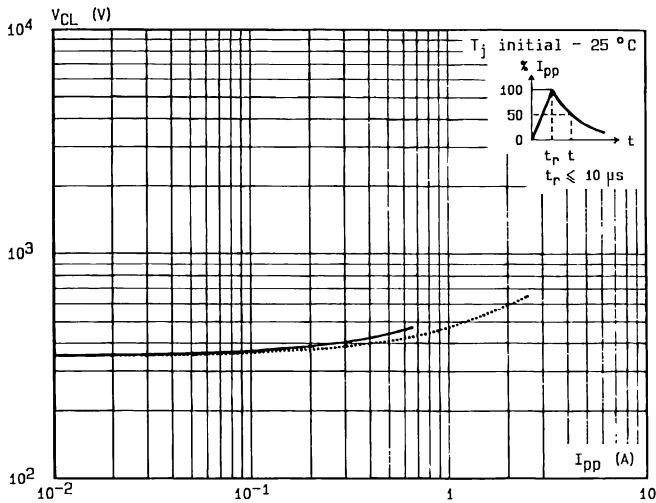

Fig.2 - Clamping voltage versus peak pulse current
Note : The curves of the figure 2 are specified for a junction temperature of 25 °C before surge. The given results may be extrapolated for other junction temperatures by using the following formula :  $\Delta V (BR) = \alpha T (V (BR)) \times [T_j - 25] \times V (BR)$